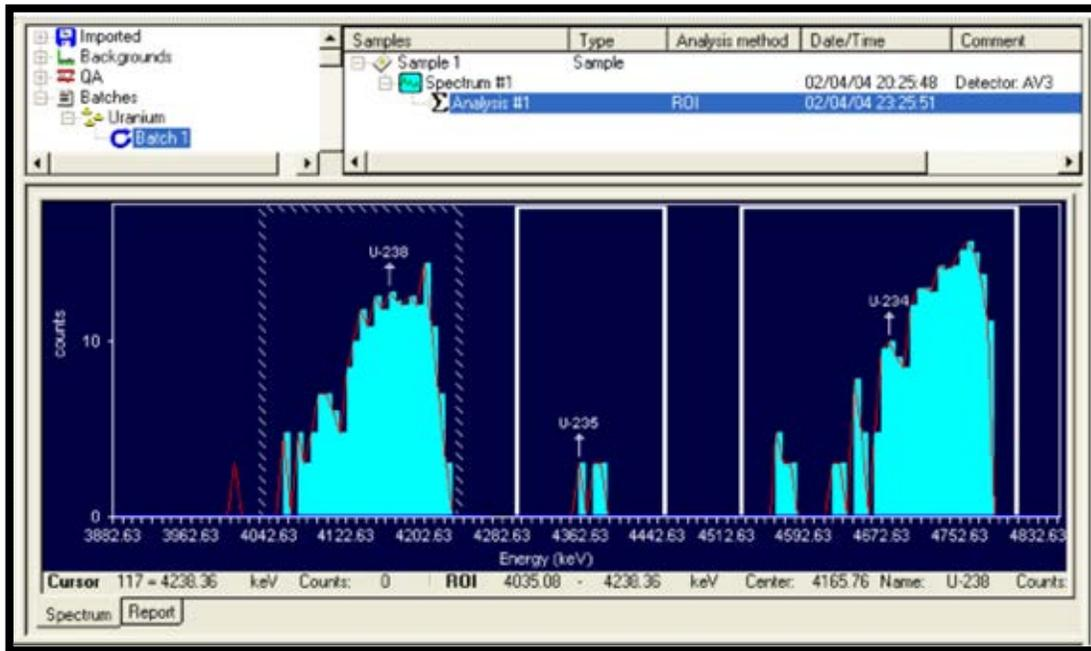

Figure 141. Reanalysis is Complete and the Analysis Date/Time Has Updated
- 6) Figure 141 shows the completed reanalysis. Notice that the analysis **Date/Time** in the Sample Explorer has been updated.